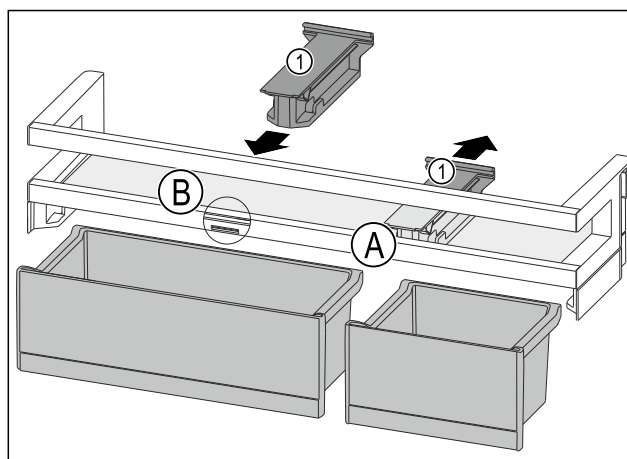

Fig. 107
- Take off the holding part Fig. 107 (1) in position Fig. 107 (A) backwards.
- Insert the holding part Fig. 107 (1) in position Fig. 107 (B).